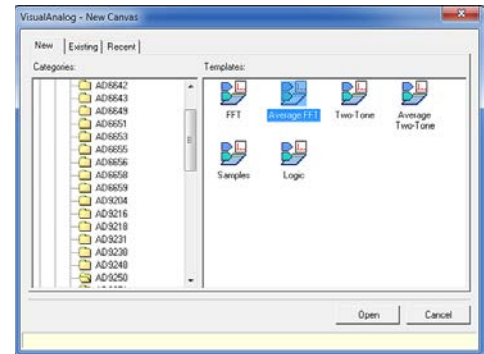

Figure 2. New Canvas Window
8. Open the **VisualAnalog** software on the PC. The AD9250 or the AD6673 should be listed in the status bar of the **New Canvas** window (see Figure 2).